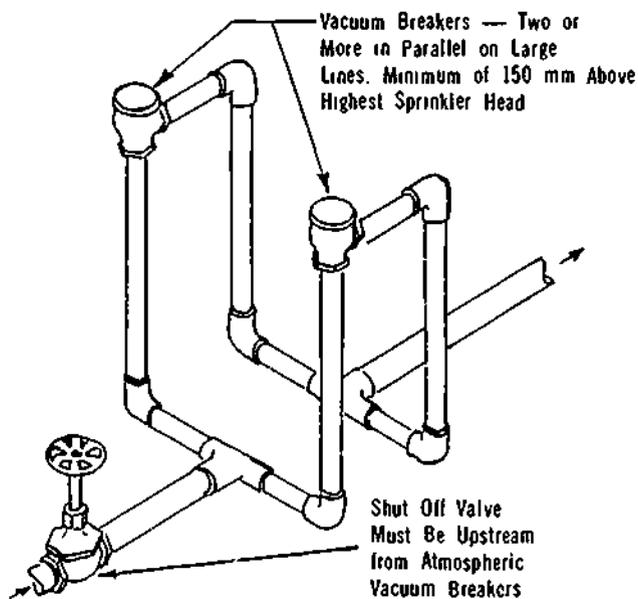

Figure 30-10. Atmospheric Vacuum Breaker. Style for Sprinkler System Application
52. Reduced Pressure and Pressure Type Vacuum Breaker units should be installed above the ground. They may be free-standing in locations without frost. Chambers or houses should be provided for protection against frost and vandalism. (See Figures 30-10 and 30-12.)
55. A drain line with air gap and funnel must be provided to receive discharge from the differential relief valve on Reduced Pressure Type Vacuum Breaker units. This is not required on Pressure Type Vacuum Breaker units because the vacuum breaker introduces air into the system only to break the vacuum. (See Figure 30-10.)